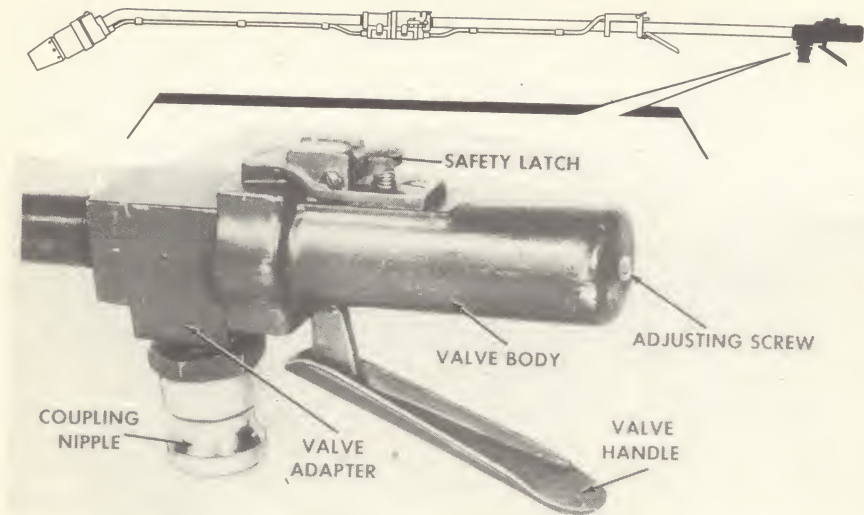

Fig. 34. Butt of gun showing gun valve.
(4) Gun connector. The control-end gun connector fits over the nozzle-end gun connector and serves to connect the two halves of the gun.
b. Disassembly of gun control-end. (1) Gun valve. Apply wrench to square portion of valve (fig. 34) and unscrew from fuel pipe. Coupling nipple may be unscrewed from valve body with a wrench.
(4) Tubing holding ignition wire. Loosen set screws in tube clamps and slide tubing out from clamps.
d. Adjustment of gun control-end. (1) Gun valve. This valve (fig. 34) rarely requires adjustment. If a leak develops, try to correct by increasing tension of spring in valve by turning adjusting screw at butt end of gun clockwise approximately one-eighth of a turn, or more as needed. If this does not stop leak or if increased tension makes valve too difficult to operate, remove valve and install new valve. Old valve may be reground in higher echelon.
(2) Ignition lever. The foot of the ignition lever should have not more than approximately 3/16-inch play before it touches ignition lever plunger. If play is greater, remove ignition lever and bend foot of the lever slightly forward to reduce the gap. Reinstall ignition lever.
(3) Ignition wire. (a) Remove the four plunger covers from ignition head, gun connectors, and ignition lever assembly of assembled gun (both halves connected).